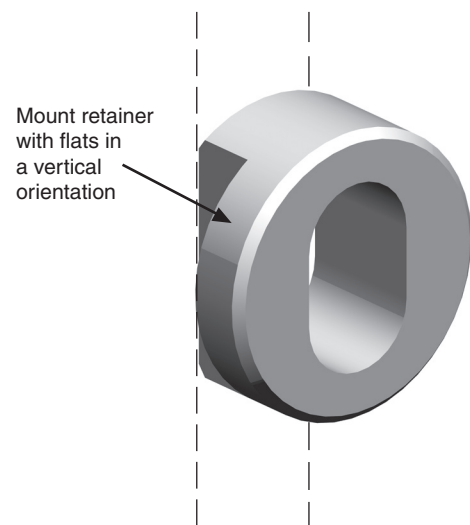

Figure 13 – Retainer fitting
2. Fit an M6 (1/4") cap head screw through the retainer and tighten with the flats of the retainer held in a vertical orientation (see Figure 13). Use the mid-position of the slot as an initial height adjustment.